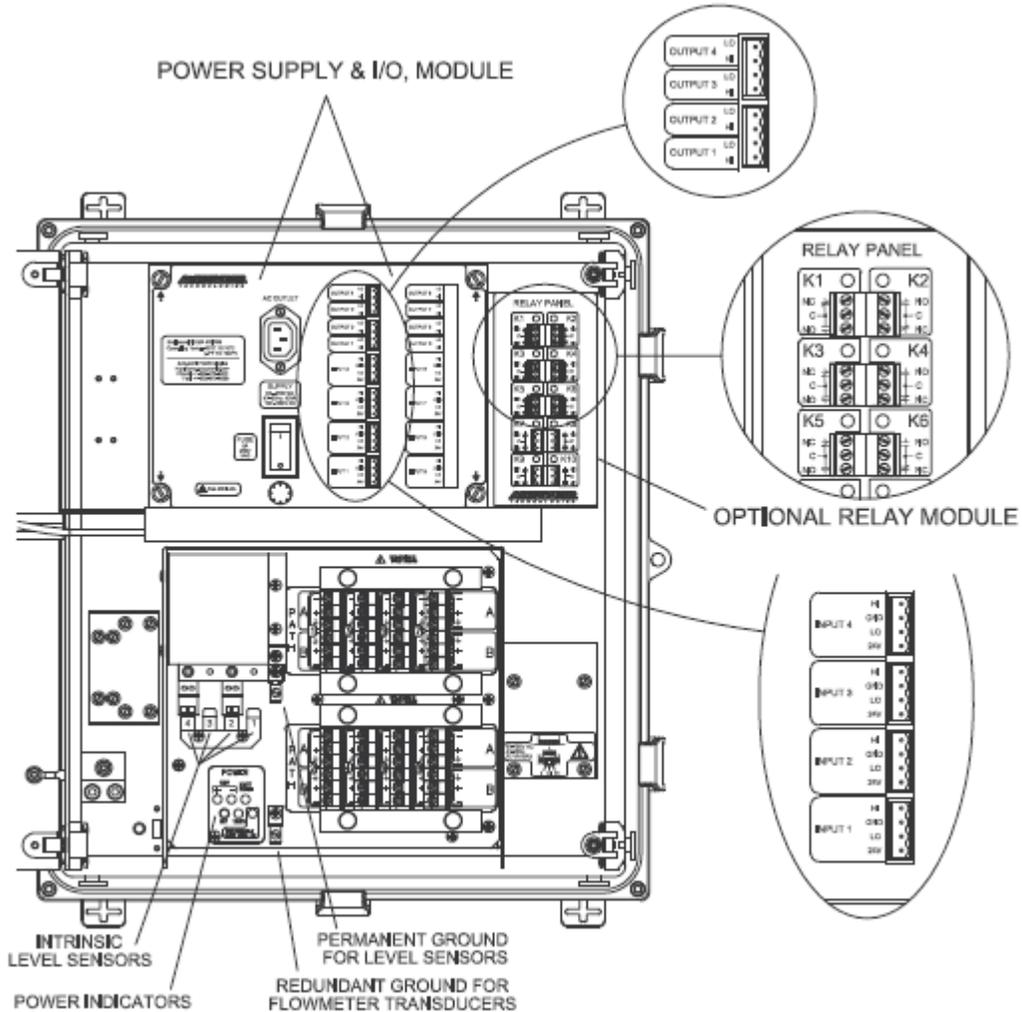

Figure 4-9 Analog Output and Relay Connection Locations
**Warning:** Only intrinsically safe water level transmitters may be connected to these inputs. Inputs from non-intrinsically safe circuits (such as 4-20mA signals from an electronic unit mounted in the “safe” area shall be connected to the “Non-intrinsic Analog I/O” see Figure 4-9)
On most systems the terminals for the level inputs are located in the right hand upper section of the cabinet as shown in Figure 4-9. Input impedance for each channel is 100 ohms.
Connect to the 4-20mA terminals as indicated in Figure 4-9
On most systems the terminal strip for the relays is located on the extreme right hand end of the connector panel shown in Figure 4-9. The labeling on the flowmeter and the Customer Specific drawings at the back of this manual will indicate the terminals to be used.